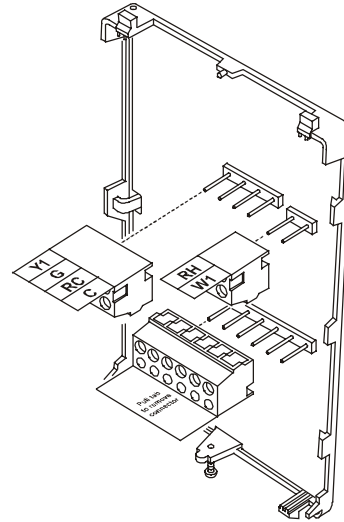

Figure 4: Removing the Terminal Blocks
8. Pull out the screw terminal blocks using the pull-tabs on each connector (see Figure 4).